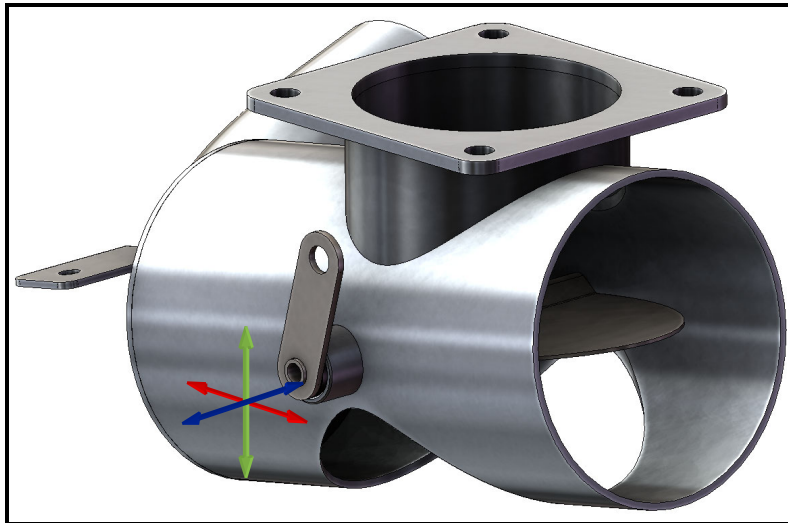

Figure 3 - Possible Butterfly Valve Play
7. Manually check for annular or axial play in the butterfly valve axle. See Figure 3. If there is tangible play between butterfly valve axle and the axle bushings, CubCrafters recommends proceeding to Step 8. If no apparent play is observed in the butterfly valve axle, proceed to Step 17.